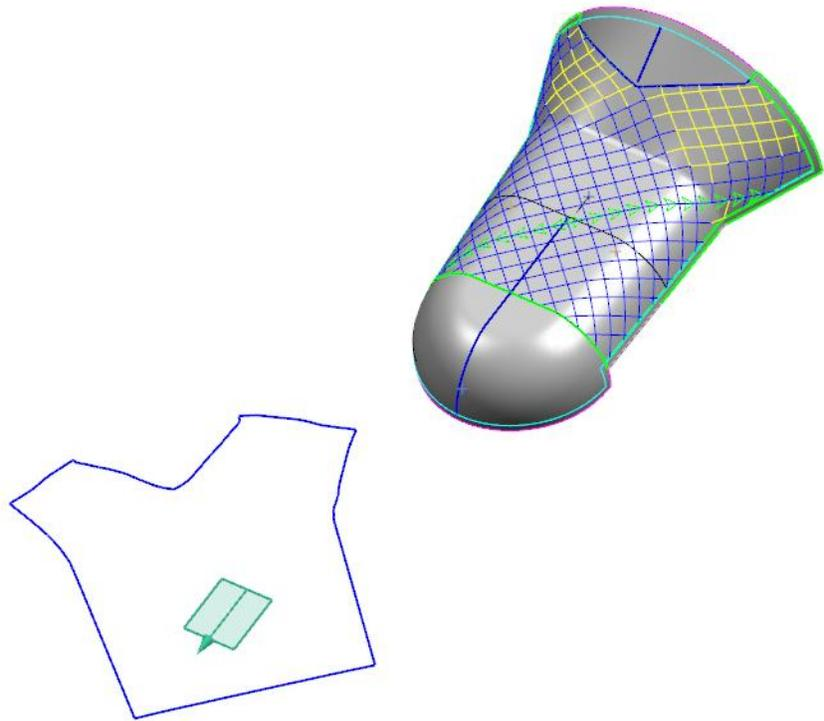

Figure 4–40
4. Switch to the NX window to display the producibility and flat pattern results as shown in Figure 4–40.